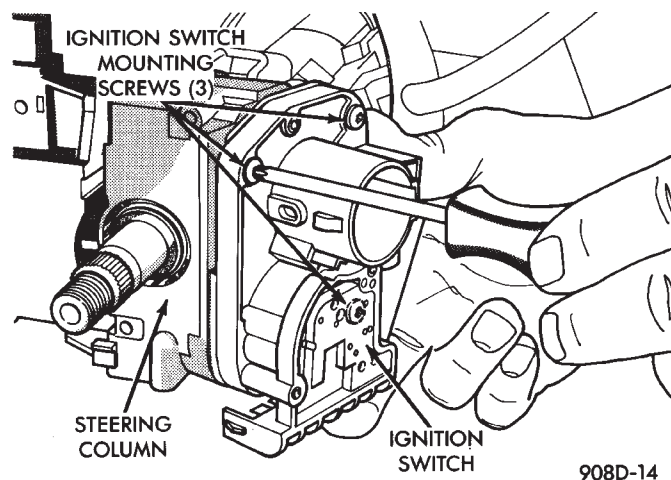

Fig. 1 Ignition Switch Screw Removal
- (1) Disconnect negative cable from battery.
- (2) If the vehicle has a tilt column, remove the tilt lever by turning it counterclockwise.
- (3) Remove upper and lower covers from steering column.
- (4) Remove ignition switch mounting screws. Use tamper proof torx bit Snap-on TTXR15A2, TTXR20A2 or equivalent to remove the screws (Fig. 1).